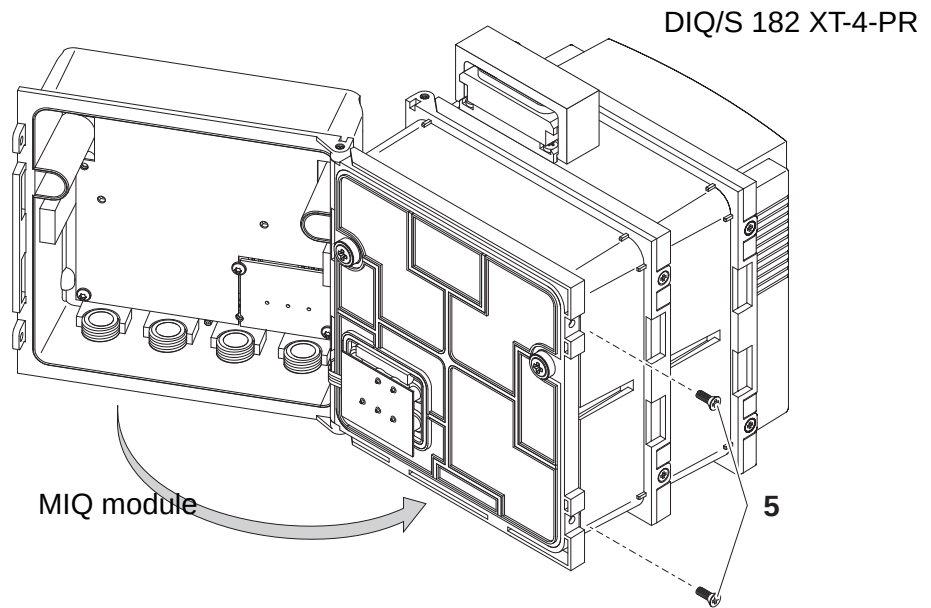

Fig. 3-11 Closing the enclosure (variant 2)
8	Close the MIQ module and fix it with the two countersunk screws (pos. 5 in Fig. 3-11).